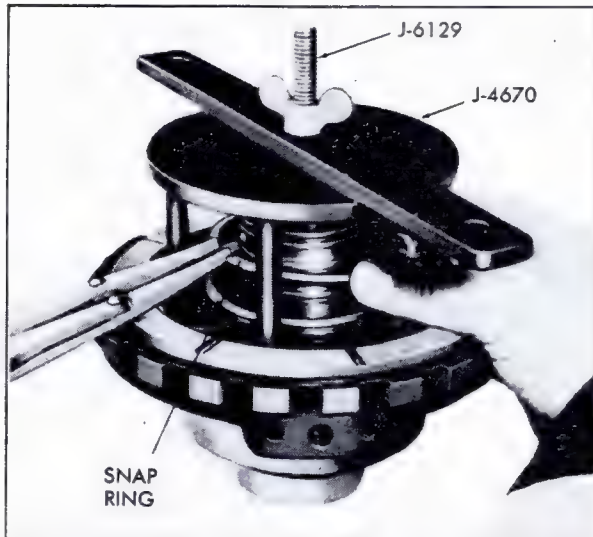

Fig. 7-187 Removing and Installing Intermediate Clutch Piston Snap Rings
c. Using Clutch Spring Compressor, J-4670, and Rear Clutch Spring Compressor, J-6129, Fig. 7-187, compress spring retainer and remove snap ring with Snap Ring Pliers, J-8059 or J-5586.
e. Using Clutch Spring Compressor, J-4670, and Rear Clutch Spring Compressor, J-6129, Fig. 7-187, compress spring retainer, being careful that retainer does not get caught in snap ring groove, and install snap ring with Snap Ring Pliers, J-8059 or J-5586. Remove tools.